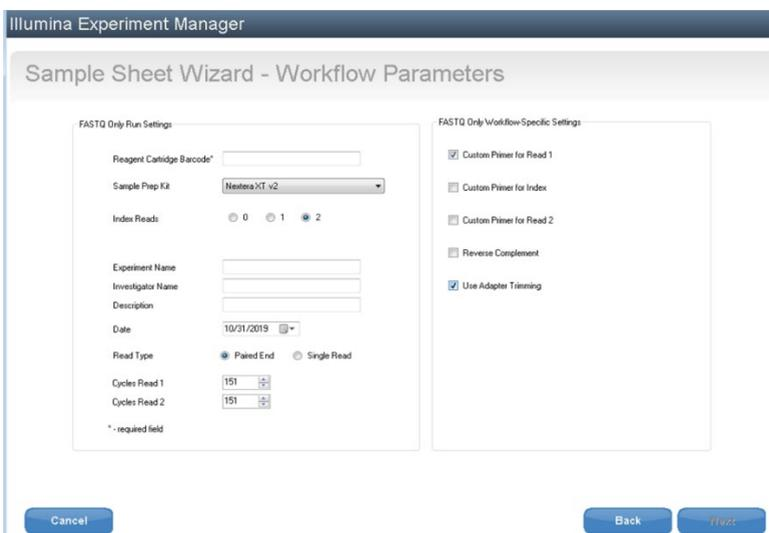

Figure 7 Sample sheet using Illumina Experiment Manager.
- Set up the sample sheet with Custom Sequencing Read 1 primer using Illumina Experiment Manager v1.2, or later (Figure 7). Sample index of QIAseq Targeted Methyl Panel is compatible with Illumina Nextera® XT v2 adapter sample index system. Set the parameters as follows: